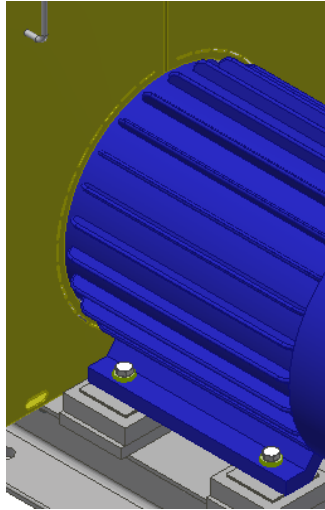

Figure 23: Machine Guard Motor Panel Modification
- Cut the Machine Guard Motor Panels (p/n's _ _-239 & _ _-240) along the slotted circular pattern that corresponds to the measured motor diameter as shown below (Figure 23).